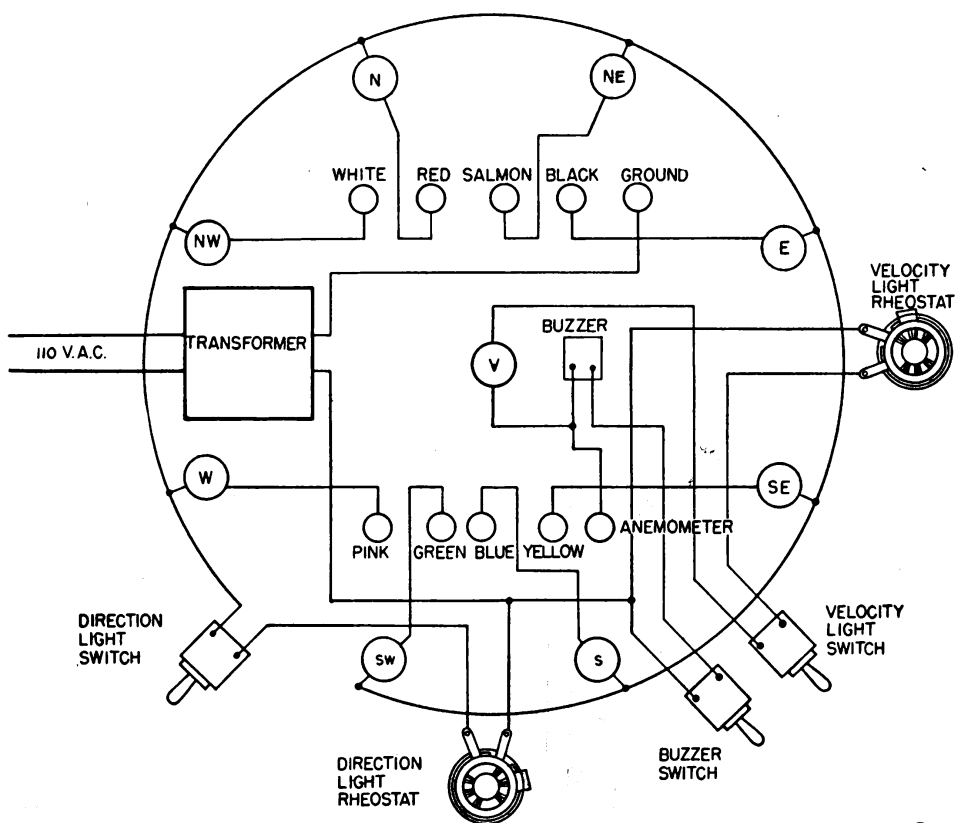

Figure 19. Indicator ML-117-A, wiring diagram.
(2) Tighten the socket clamping screw to fasten the anemometer securely to the support.
32. INSTALLING INDICATOR ML-117-A (fig. 19). **a.** Indicator ML-117-A is not weatherproof and must be installed inside a shelter.
b. Connecting Bearing ML-129-D. (1) The contacts of Bearing ML-129-D already are connected to the 9-wire cable that extends through the masthead. *Do not attempt to expose the contacts* by lowering the outer shell.